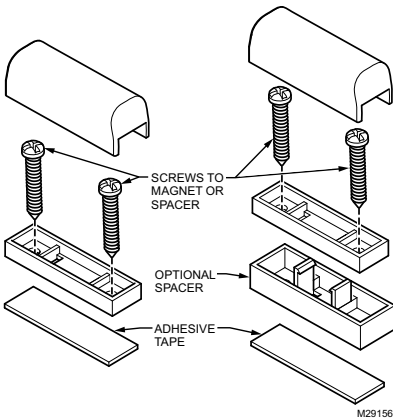

Fig. 10. Door magnet mounting options.
8. Secure the magnet to the door by using the two screws or adhesive tape provided. An optional spacer is provided, as well. See Fig. 10.